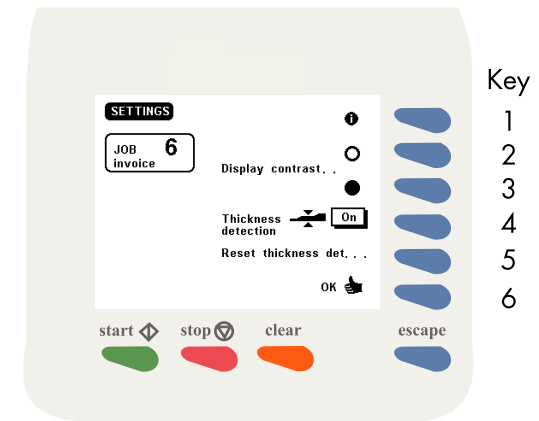

Fig. 22
After pressing key 5 in the "main menu", the screen as shown in Fig. 22 will be displayed. The "settings" menu shows the following functions:
- job data (key 1).
- decrease contrast of the display (key 2).
- increase contrast of the display (key 3).
- thickness detection on or off (key 4).
- reset thickness detection (key 5).
- save the counter settings with "OK" (key 6) which will get you back to the "main menu".